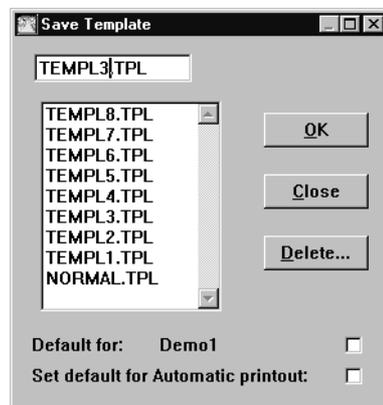

Fig. 24 The save template dialogue box.
- 1 **Select Save template to save the currently used template. A dialogue box, see Fig. 24, is shown**